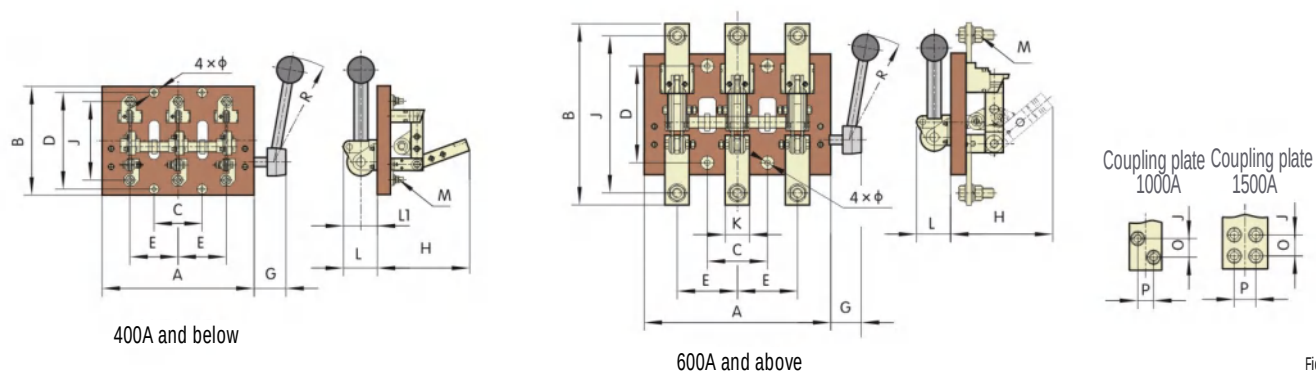

Figure 11
5.11 HD14 appearance and installation dimensions (see Figure 11 and Table 12).